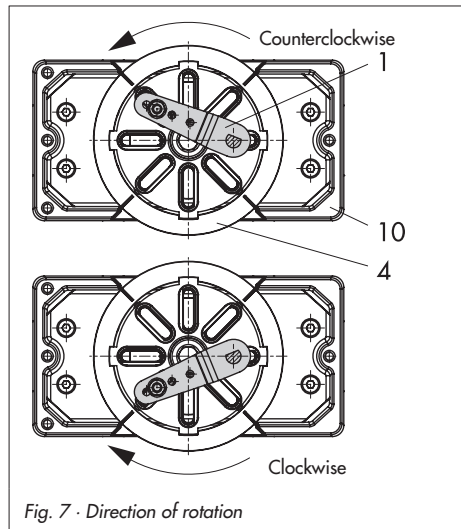

Fig. 7 · Direction of rotation
Table 5 Attachment to rotary actuators (VDI/VDE 3845 for all sizes of fixing level 2) see Figs. 7 and 8
- Place positioner on the housing (10) and screw it tight. Considering the actuator's direction of rotation, align lever (1) so that it engages in the correct slot of the coupling wheel with its follower pin (Fig. 7).